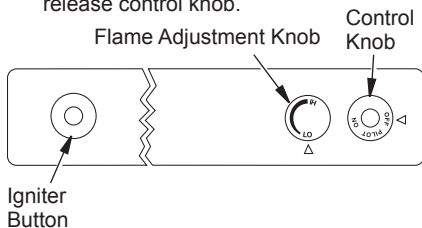

Figure 39 - Control Knob and Igniter Button Location (Shown as Supplied, No Control Options)
4. Press in and turn control knob clockwise  to the OFF position (see **Figure 39**).
5. Wait five (5) minutes to clear out any gas. Then smell for gas, including near the floor. If you smell gas, STOP! Follow "B" in the safety information, **Page 22**. If you don't smell gas, go to the next step.
6. Press in and turn control knob counter-clockwise  to the PILOT position. Press in control knob for five (5) seconds (see **Figure 39**).